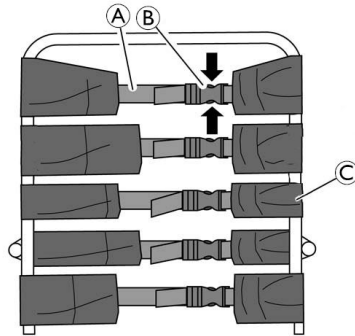

Fig. 4-6
1. Open the buckles (B) by squeezing the retaining lugs together (refer to arrows in Fig. 4-6).